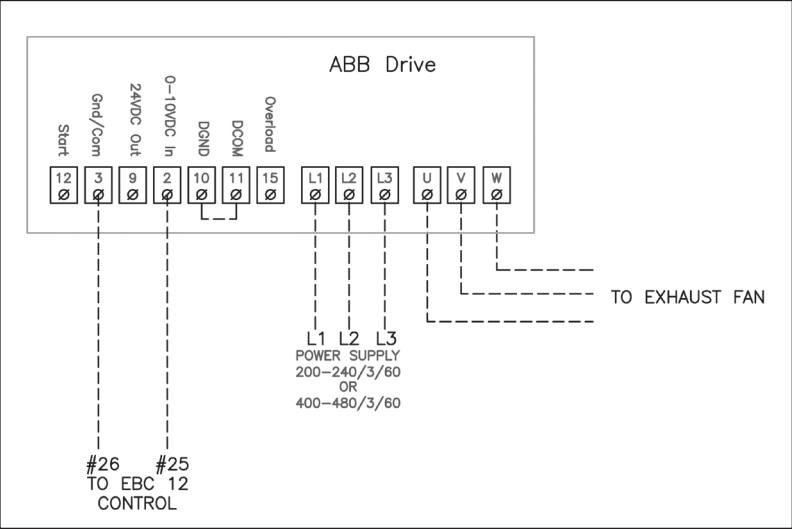

Fig. 10
- If using a 3-phase fan and VFD, connect the VFD to terminals 25 and 26 as shown in Fig. 10 and 11.
- ▶ If using a 3-phase fan and VFD, connect the VFD to terminals 25 and 26 as shown in Fig. 10 and 11. **DO NOT** connect the fan directly to the MEC 18 control.
Wire the ABB ACS320 series variable frequency drive according to fig. 10.